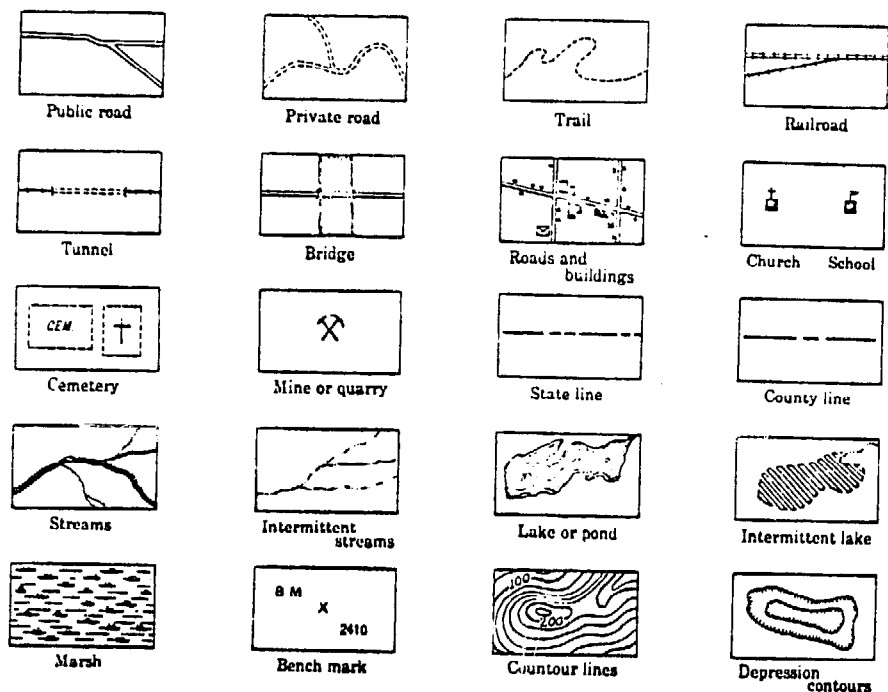

Fig. 4.2
4. Closed depression contours are hachured (See Fig. 4.2) on the lower side. They are used when all points within the line are below the level of the line. Obviously they are only required to show depressions which are completely surrounded by high ground. Gullies and river valleys are not illustrated by depression contours. A depression contour takes its value from that of the lowest, topographically adjacent regular contour.